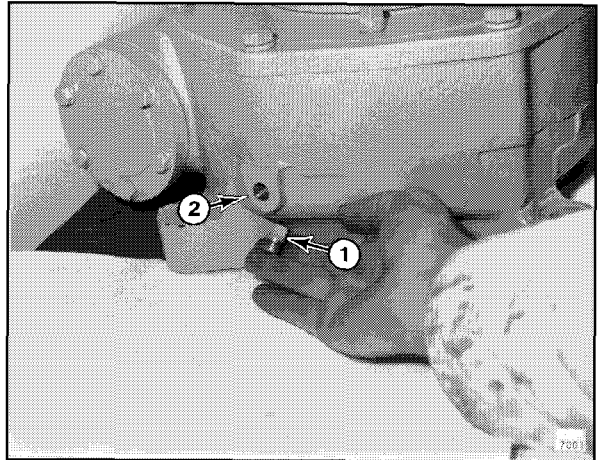

Figure 6
1. Install two needle bearing (4, Figure 6) in front housing (11).
2. Install ball bearing (13, Figure 6) on drive shaft (7). Hold bearing in place with two retaining rings (12).
3. Press bearing (13, Figure 6) with shaft (7) into front housing (11).
4. Install spacer (14, Figure 6), oil seal (15) and retaining ring (16) in front housing (11).
5. Install woodruff key (8, Figure 6) and drive gear (5) on drive shaft (7).
6. Assemble idler gear drive shaft (6, Figure 6). Shaft assembly is comprised of a drive gear, idler shaft, drive pin and retaining ring.
7. Install two needle bearings (4, Figure 6) in rear housing (1).
8. Aligning match marks, position proper colored gasket (10, Figure 6) and rear housing (1) on front housing (11). Install eight bolts (2). Tighten bolts from 9.5 - 12.5 lbf ft (1.3 - 1.7 kg•m).
6. Remove check level plug (1, Figure 6) at side of gear case (2).